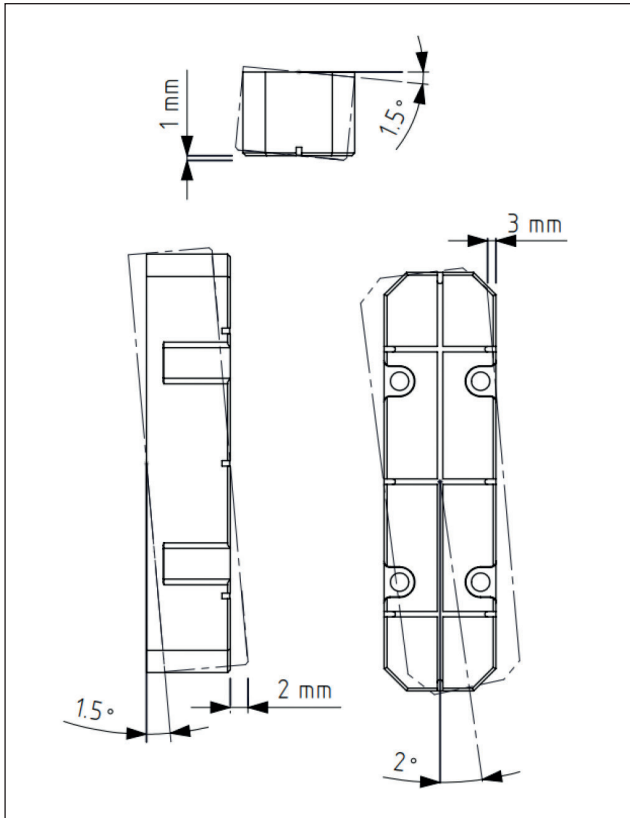

Fig. 29.
4. Check that following magnet alignment requirements are not exceeded. See fig 29.